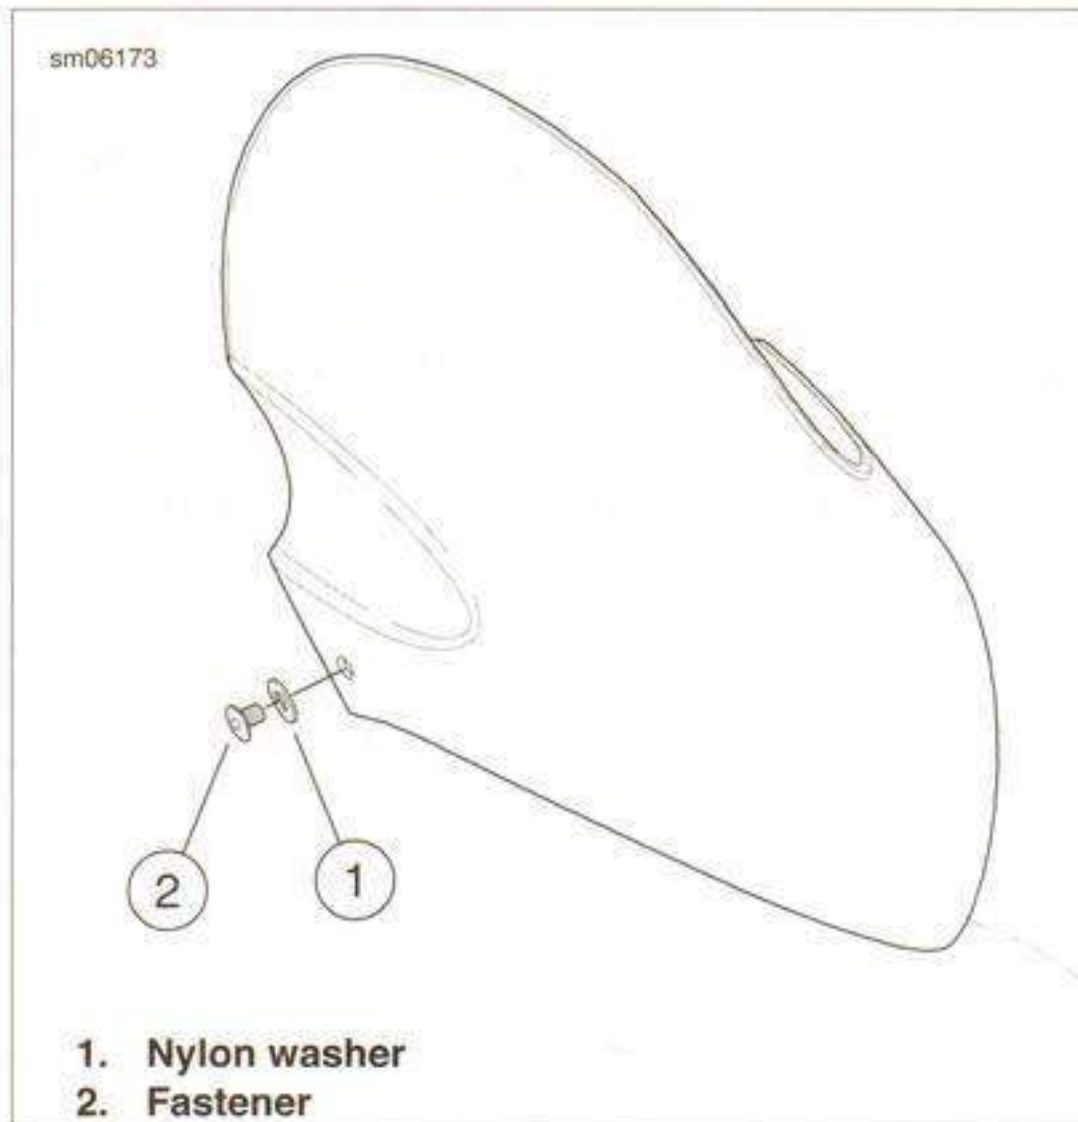

Figure 2-134. Windscreen: 1125CR
1. See Figure 2-134. Install the nylon washers (1) and the fasteners (2).